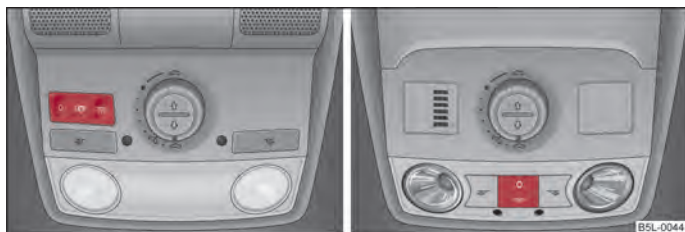

Fig. 31 Front vehicle interior lighting
- Press the switch at the point of the symbol  ⇒ fig. 31.
- Position the switch into middle position. On vehicles without interior monitor, the middle position is marked with a symbol  ⇒ fig. 31 - left.